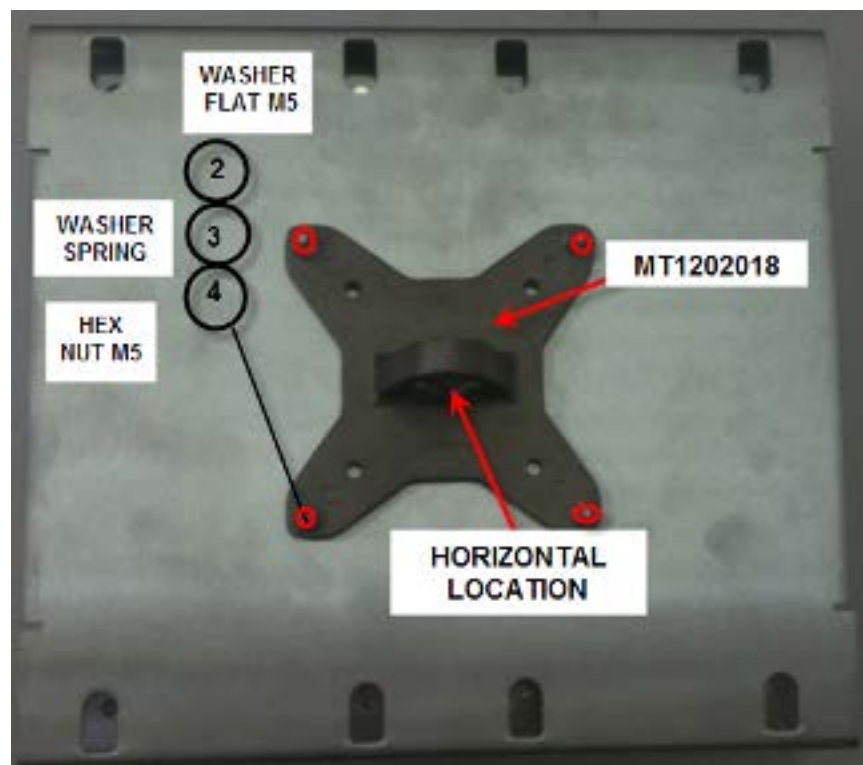

Figure 22: Adaptor Plate Mounted on Baseplate
3. Position the adaptor plate (MT-120018) on the baseplate in the position shown in Figure 22.